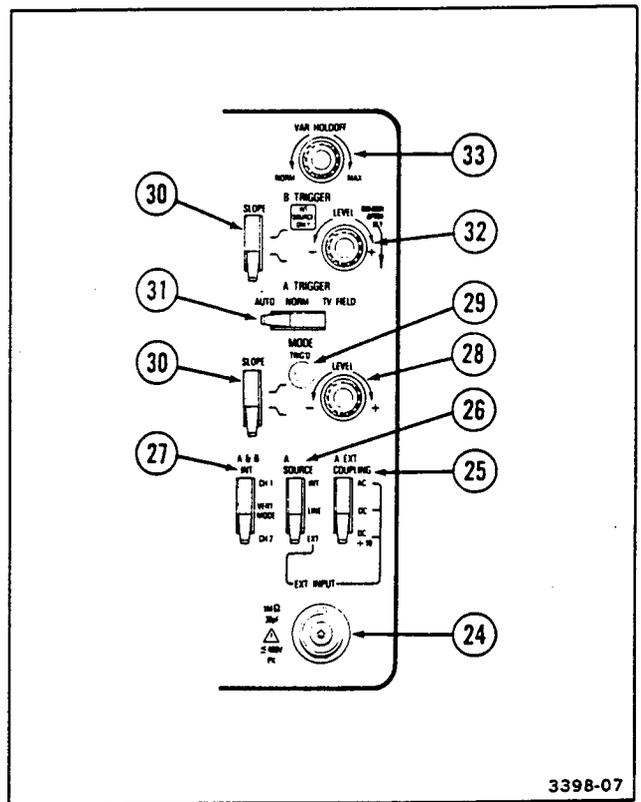

Figure 2-6. Trigger controls, connector, and indicator.
Refer to Figure 2-6 for locations of items 24 through 33.